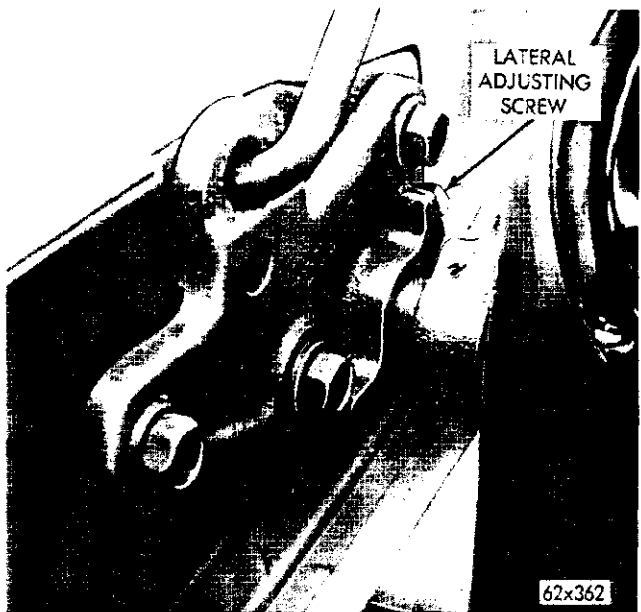
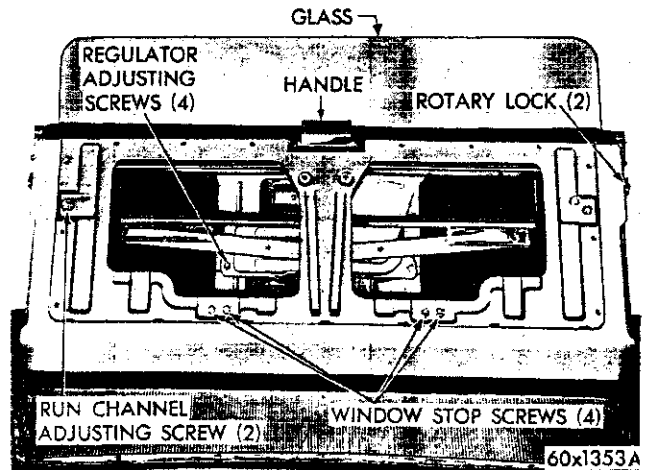

Fig. 115—Torsion Bar, Hinge and Aligning Points
Fig. 116—Tail Gate, Adjustment and Aligning Points
- (1) Remove the rear bumper face bar to enable the tail gate to be removed down and out of the body opening.
- (2) Under the tail gate door, remove the torsion bar brackets from the pillar posts.
- (3) Open the tail gate and support on jacks or stands.
- (4) Loosen the hinge pivot pin locking screws (Fig. 115).
- (5) Use a pencil and outline the hinge plate position on pillar post for future assembly.
- (6) Remove the hinge plate attaching bolts from the pillar post (Fig. 116).
- (7) Slide the hinge plate and the torsion bar in through the guide toward the center of the tail gate.
- (8) Lower the tail gate down and out of the body opening.
- (1) With the tail gate glass removed, remove the channel attaching bolts (Fig. 116) and remove the channel.